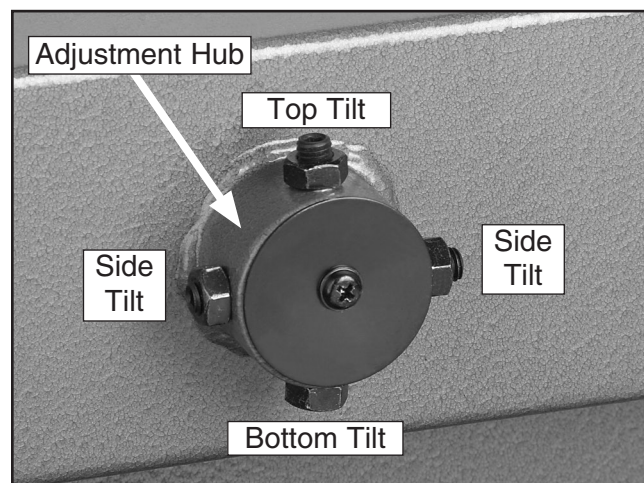

Figure 64. Lower wheel adjustment control.
5. Adjust the tracking knob to get both wheels parallel. If the wheels won't go parallel to each other, then move the lower wheel at the adjustment hub (**Figure 64**) so they line up.